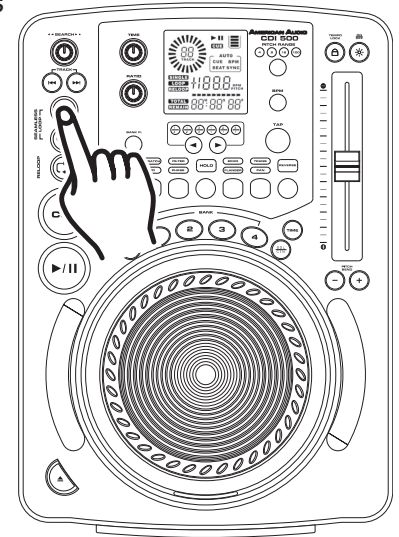

Figure 14
A cue point is the exact point playback will begin when the *PLAY/PAUSE BUTTON (17)* is pressed. You may set your cue points anywhere on a disc or in a track. You may set up to five independent cue points per disc. Four cue points are stored in the *BANK BUTTONS 1-4 (12)* and one is shared by the *IN BUTTON (26)* and the *CUE BUTTON (20)*. There are two (2) ways to set and create a CUE point as detailed in figures 14 and 15.
- 1) You may press the *IN BUTTON (26)* on the fly (while the disc is playing). This will set a CUE Point without music interruption. Pressing the *CUE BUTTON (20)* will now return you to the same point that you pressed the *IN BUTTON (26)*. You may now store this CUE Point in any of the *BANK BUTTONS 1-4 (12)*.